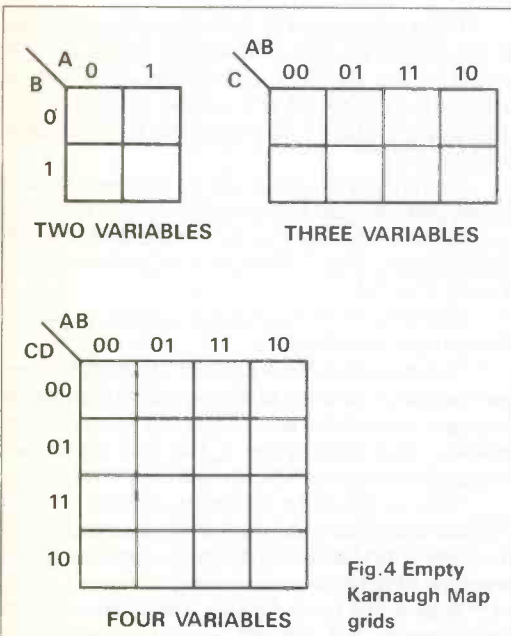

Fig.4 Empty Karnaugh Map grids
*Karnaugh mapping* is an ingenious technique which takes the hard work (and algebra!) out of simplification. The Karnaugh map is a pictorial representation of the Boolean equation, similar to a truth table. The empty grids for two, three or four variables are shown in Fig.4.